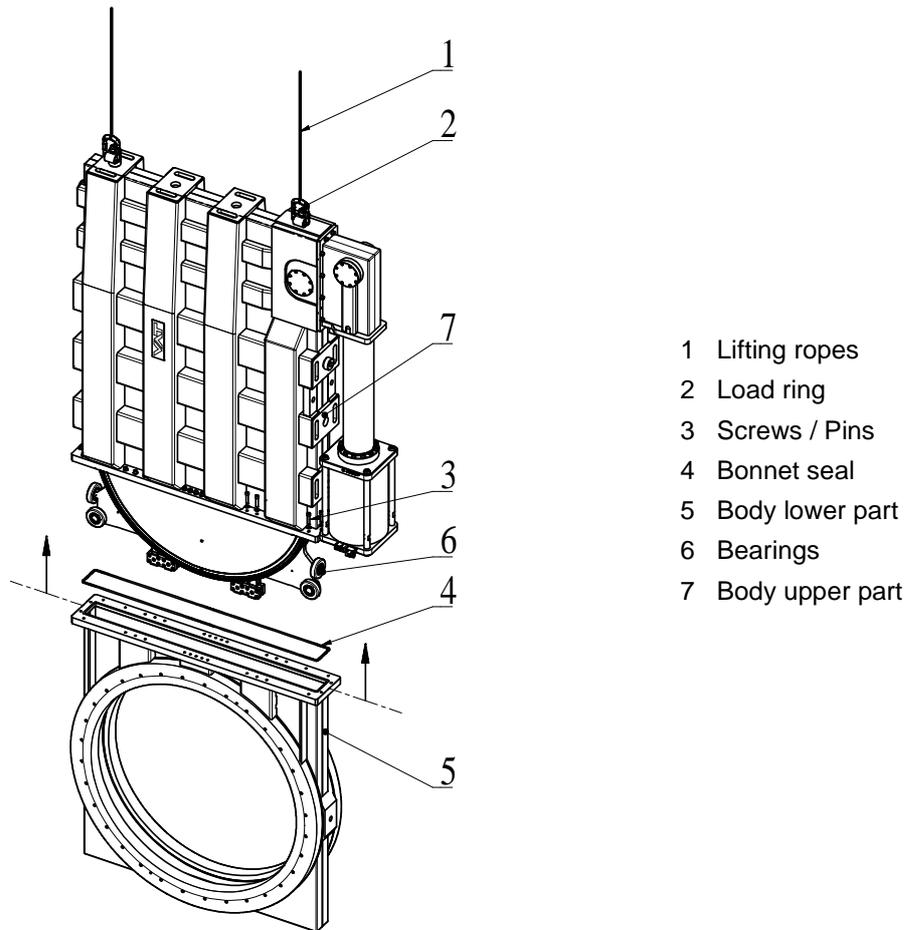

Figure 6-1
5. Remove the screws (3) from the body cover (7) in crosswise order; see «Figure 6-1» on page 18.